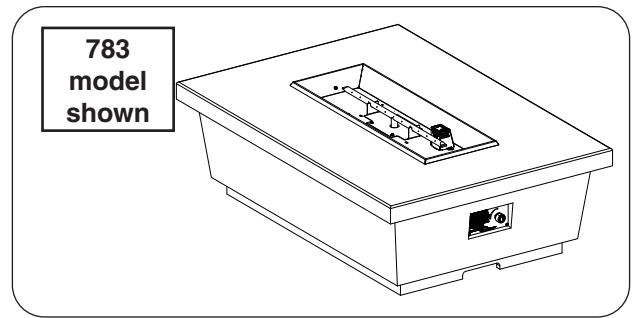

Fig. 25-1 Place unit
1. **Carefully** place the base in an appropriate location (see Fig. 25-1, and refer back to the LOCATION section if needed).